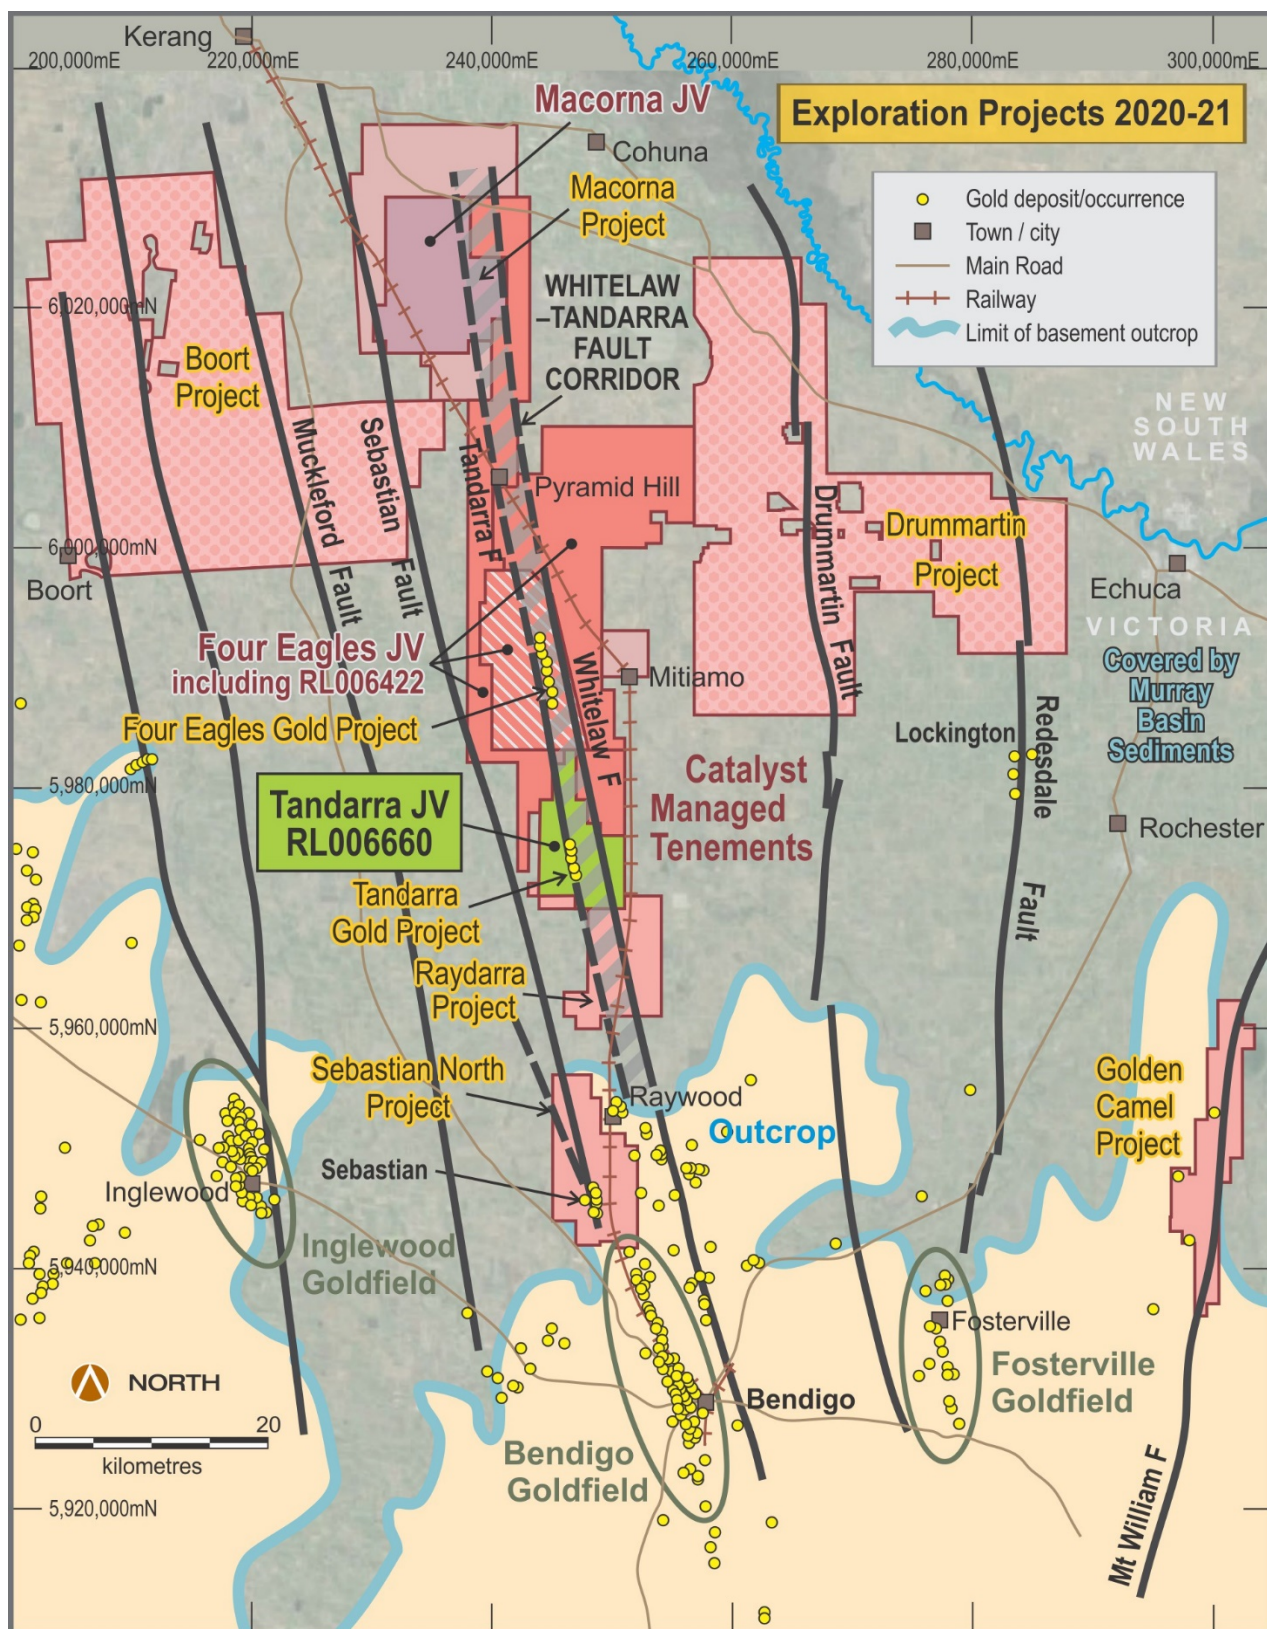

Figure 1: Whitelaw Belt showing the location of Tandarra Gold Project RL006660
Catalyst Metals Limited (**Catalyst**) (ASX:CYL) and Navarre Minerals Limited (**Navarre**) (ASX:NML) are pleased to announce final results from a 60 hole, 6,764 metre Air Core drilling program on the Macnaughtan and Lawry prospects and an 11 hole, 3,800 metre Diamond/Reverse Circulation (RC) drilling programme at Macnaughtan and Tomorrow prospects at the Tandarra Gold Project (Figure 1). Interim Air Core results on the Macnaughtan and Lawry prospects were reported on 15th April 2021. Drilling activities have ended for the 2021 field season and will resume in December 2021 / January 2022 after crops have been harvested.
The Tandarra Gold Project is situated along the Whitelaw Fault (which is the major structural control of gold mineralisation at Bendigo, which historically produced 22 million ounces of gold at a grade of 15g/t Au), extending northwards and concealed beneath a blanket of younger, post-mineralisation sediments of the Murray Basin (Figure 1). All drilling programs are located within Retention Licence RL006660, located 40 kilometres north of the Bendigo Goldfield in Victoria and owned in Joint Venture (JV) by Catalyst (51%) and Navarre (49%), with Catalyst as manager of the JV.
Mineral tenement and land tenure status	The Tandarra gold prospect is located within RL6660 (51% Catalyst Metals Ltd and 49% Navarre Minerals Ltd situated 45 km north of Bendigo (Figure 1)
Geology	The targets are hosted by NNW-striking Ordovician sediments considered to be northern extensions of the Bendigo goldfield. The gold mineralisation discovered below the cover in RL006660 at Tomorrow and Macnaughtan Zones (Figure 4), occur in a structural zone of folds and faults which parallel the Whitelaw Fault (Figure 1). The features tested are extensions of known Au-As mineralised trends defined by earlier exploration drilling.
Diagrams	- Figure 1 shows the position of the Tandarra Project. - Figures 2-5 show the drill holes in longitudinal projection and cross section